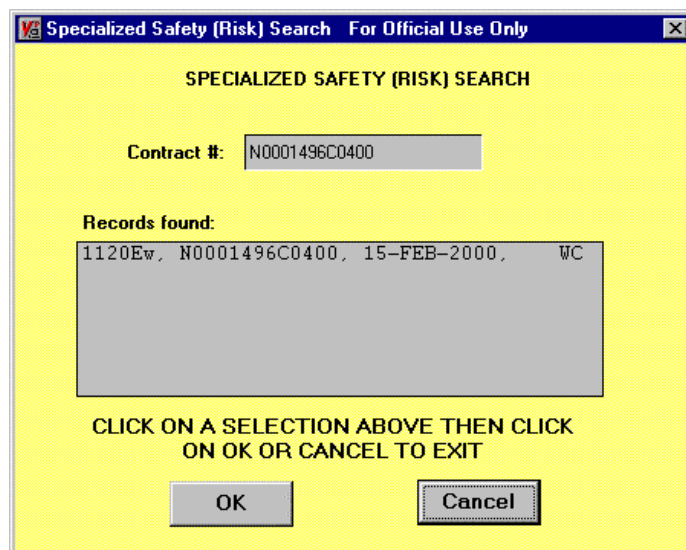

Figure 41-3 Specialized Safety-Risk Assessment Search Results Pop-Up Window
3. Press **Tab** or **Enter**. The application searches for matching records. Matching records are displayed on the bottom of the Search window (Figure 41-3). If more than 250 records are found, a message appears as explained in Section 10.2.3.